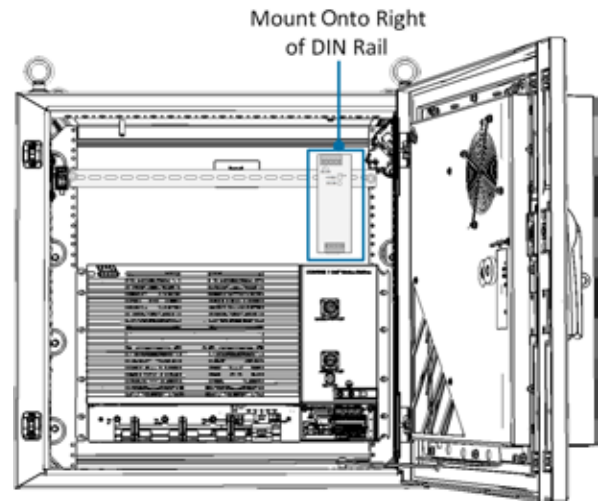

Figure 9. Installation Location of DIN Rail Power Supply
Step 2: Mount the DIN rail power supply onto the **right side** of the installed rail, as shown in Figure 9.